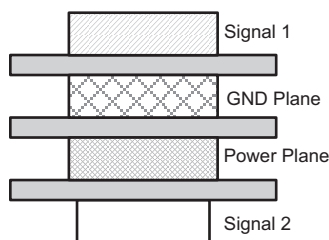

Figure 5. Four-Layer Board Stack-Up
8. Due to high frequencies associated with the USB, a printed circuit board with at least four layers is recommended; two signal layers separated by a ground and power layer as shown in . Figure 5